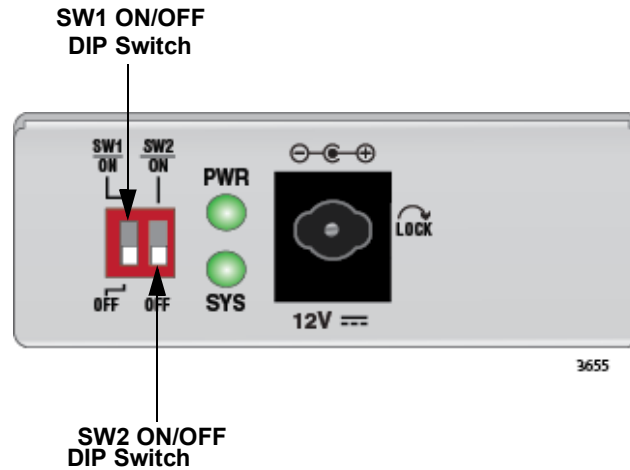

Figure 9. Media Converter Back Panel
**DIP Switches** The DIP switches enable/disable SML and Loopback Modes. Refer to Figure 9.